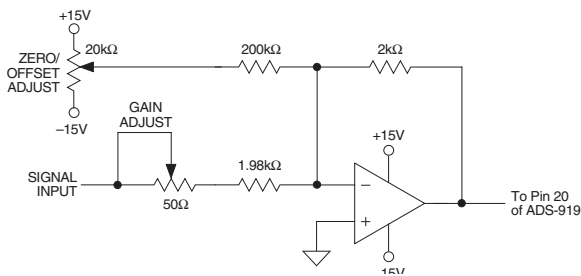

Figure 2. ADS-919 Calibration Circuit
Bypass all power supplies and the REFERENCE OUTPUT (pin 21) to ground with 4.7µF tantalum capacitors in parallel with 0.1µF ceramic capacitors. Locate the bypass capacitors as close to the unit as possible. If the user-installed offset and gain adjusting circuit shown in Figure 2 is used, also locate it as close to the ADS-919 as possible.
can be reduced to zero using the input circuit of Figure 2. When using this circuit, or any similar offset and gain-calibration hardware, make adjustments following warmup. To avoid interaction, always adjust offset before gain.
**CALIBRATION PROCEDURE (Refer to Figures 2 and 3)**
Any offset and/or gain calibration procedures should not be implemented until devices are fully warmed up. To avoid interaction, offset must be adjusted before gain. The ranges of adjustment for the circuit of Figure 2 are guaranteed to compensate for the ADS-919's initial accuracy errors and may not be able to compensate for additional system errors.
All fixed resistors in Figure 2 should be metal-film types, and multiturn potentiometers should have TCR's of 100ppm/°C or less to minimize drift with temperature.